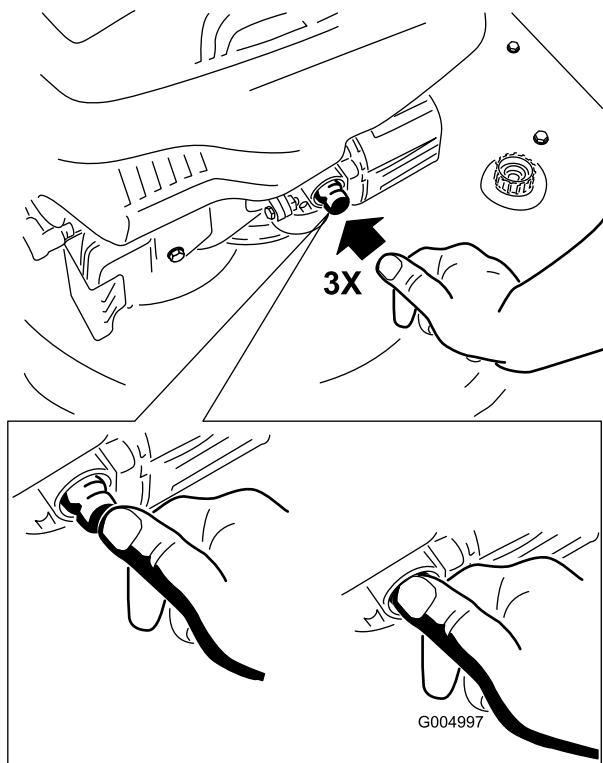

Figure 13
1. Firmly push in the primer 3 times with your thumb, holding the primer in for a second before releasing it each time (Figure 13).